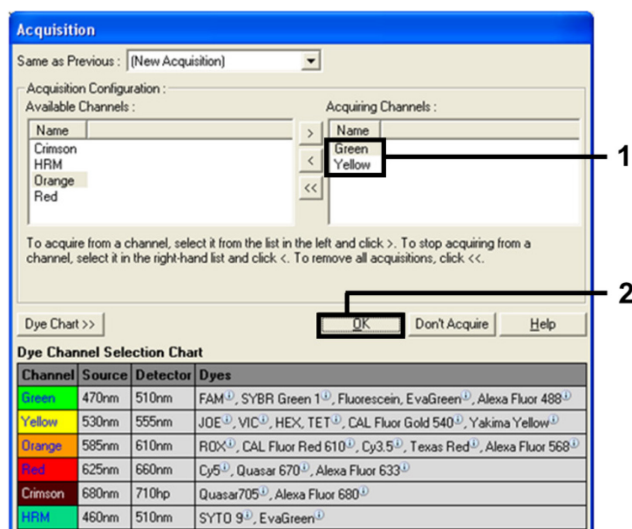

Figure 8. Acquiring at cycling step of 60°C.
10. Set Green and Yellow as acquiring channels by selecting “>” to transfer these from the “Available Channels” list. Click “OK” (Figure 8).